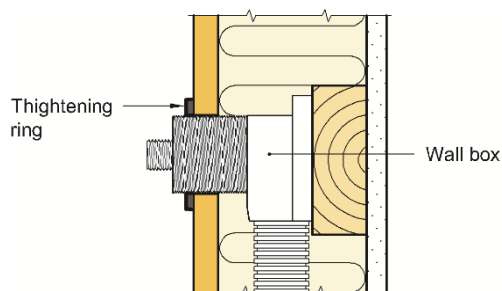

Fig. 4
- Wallboxes are installed using tightening ring delivered with the wallbox. See fig. 4.